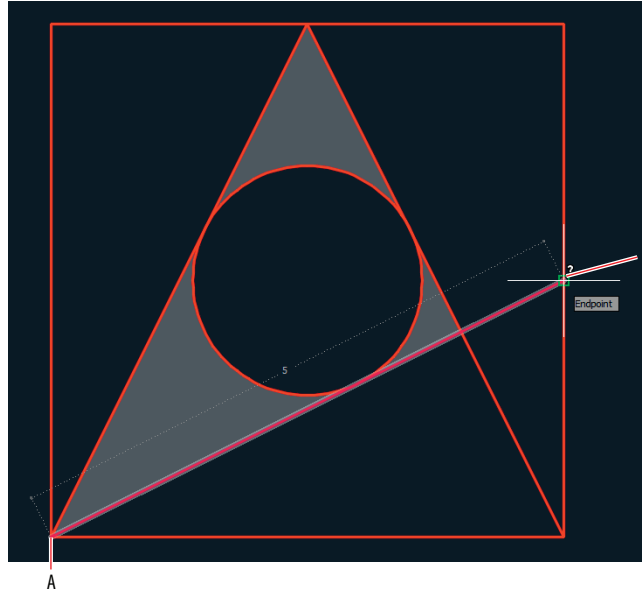

FIGURE 11.10 Measuring the distance between two points
- Click the Distance tool in the Utilities panel of the Home tab on the ribbon. Click points A and B shown in Figure 11.10. The distance 5.000 is shown onscreen, and the command prompt reads as follows: